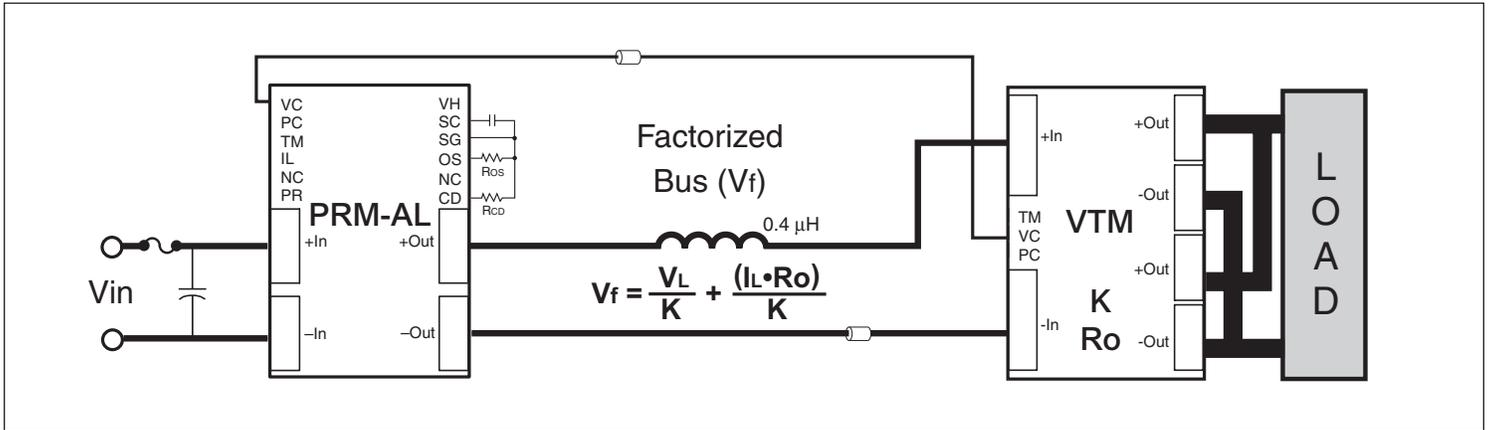

Figure 16 — Adaptive Loop compensation with soft start using the SC port.
- $V_f$  = PRM output voltage, the Factorized Bus (see Figure 16)
An external capacitor can be added to the SC port as shown in Figure 16 to control the output voltage slew rate for soft start.